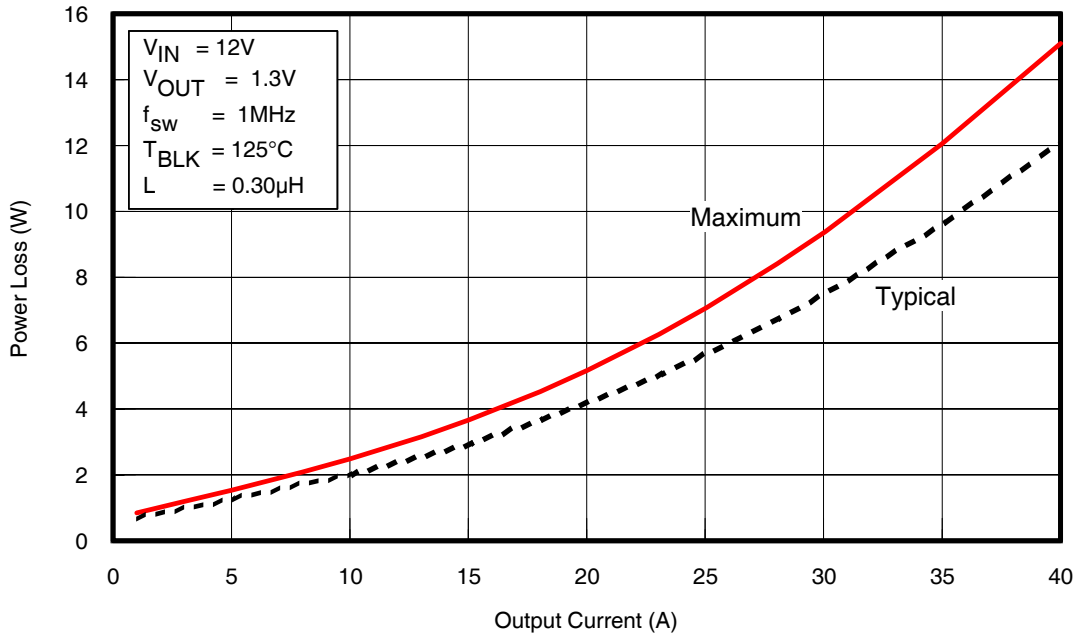
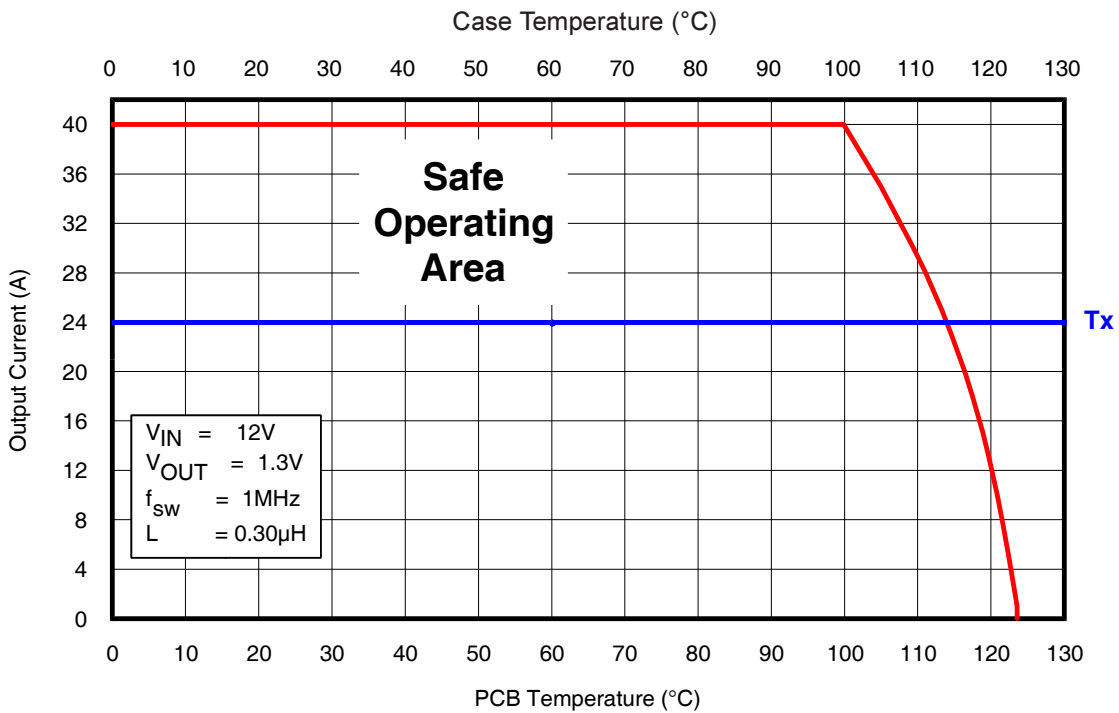
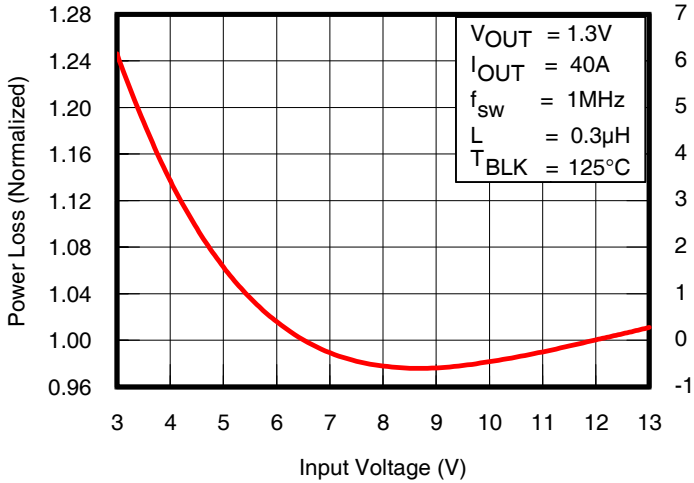

Fig. 1: Power Loss vs. Current
Fig. 2: Safe Operating Area (SOA) vs.  $T_{PCB}$  &  $T_{CASE}$
Fig. 3: Normalized Power Loss vs.  $V_{IN}$
To calculate power loss for a given set of operating conditions, the following procedure should be followed: Determine the maximum current for each iP2003A and obtain the maximum power loss from Fig 1. Use the curves in Figs. 3, 4, 5 and 6 to obtain normalized power loss values that match the operating conditions in the application. The maximum power loss under the operating conditions is then the product of the power loss from Fig. 1 and the normalized values.
To calculate the SOA for a given set of operating conditions, the following procedure should be followed: Determine the maximum PCB temperature and Case temperature at the maximum operating current of each iP2003A. Obtain the SOA temperature adjustments that match the operating conditions in the application from Figs. 3, 4, 5 and 6. Then, add the sum of the SOA temperature adjustments to the  $T_x$  axis intercept in Fig 2.
- (Fig. 1) Maximum power loss = 15W
- (Fig. 3) Normalized power loss for input voltage  $\approx$  0.98
- (Fig. 3) SOA Temperature Adjustment for input voltage  $\approx -0.5^{\circ}\text{C}$